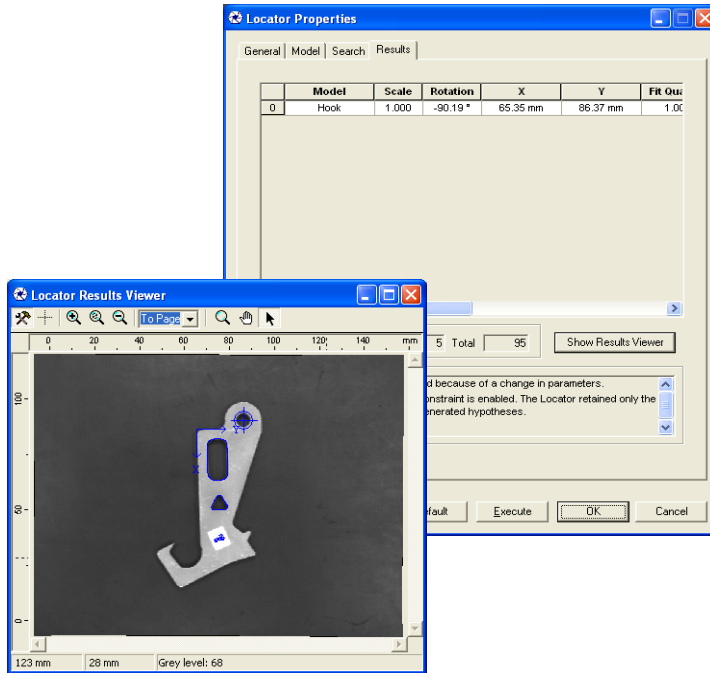

Figure 27 Results Viewer and Results Panel of the Locator Tool
4. Click **Show Results Viewer** to view the located instance superimposed on the Image, as shown in Figure 27.